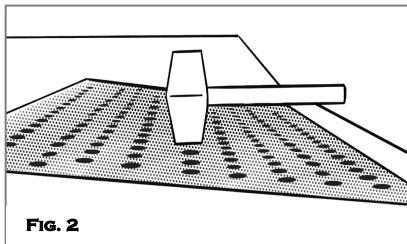

FIG. 2
3. Using a rubber mallet, tap the entire surface of the tile to ensure consolidation around the anchors. (Fig. 2)